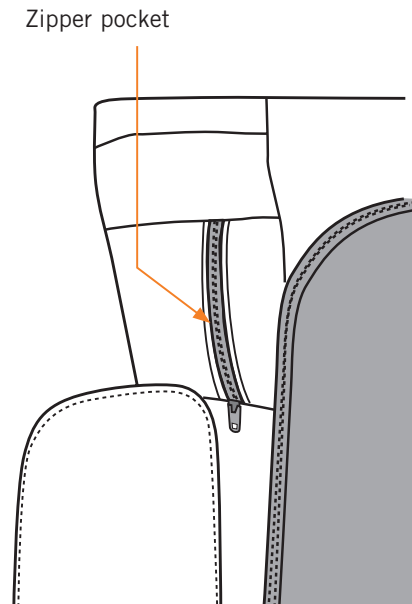

Fig.20
1. Locate the zippered pocket on the back of the body pad in the left shoulder area (Fig.20).